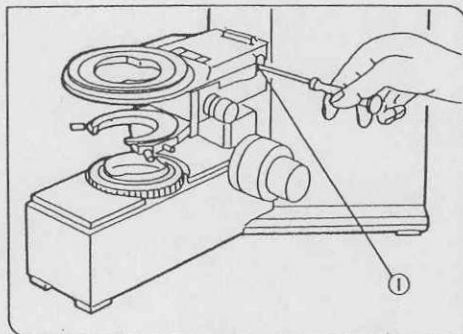

Fig. 42
2. Loosen the stage bracket clamping screw ① and remove the stage bracket. (Fig. 42)